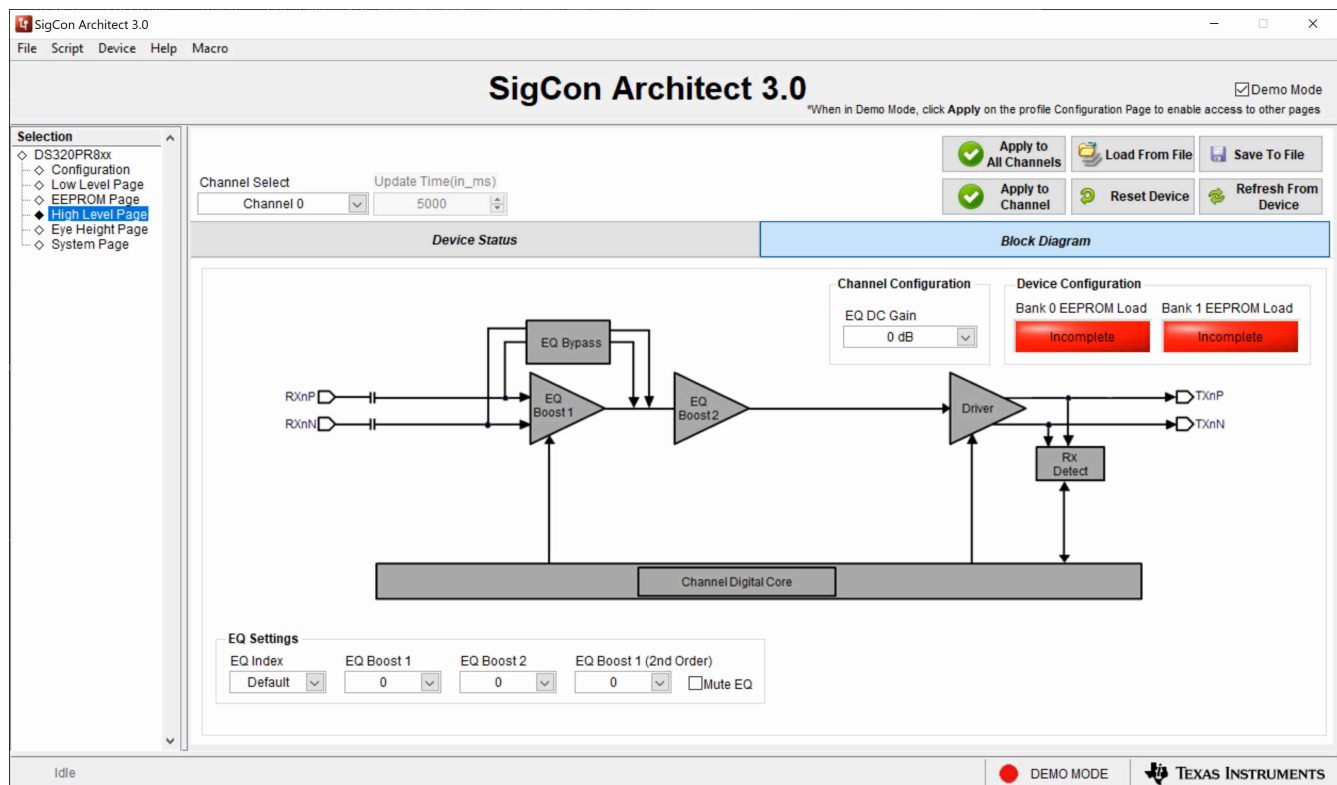

Figure 2-1. SigCon Architect DS320PR810 High Level Page
10. In the DS320PR8xx High Level Page, select Block Diagram as shown in Figure 2-1.